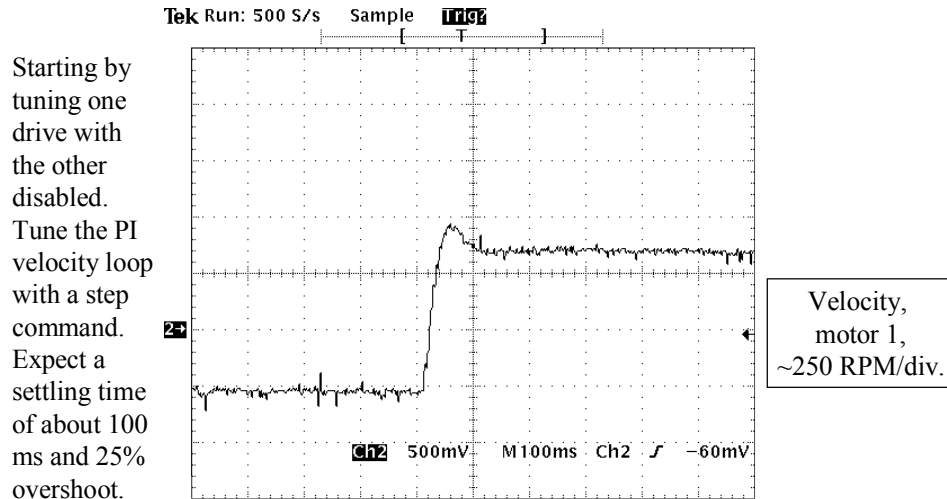

Figure 10: Tuning One Drive With The Other Disabled
- Zero the velocity loop integral gain (GVTN). Set the velocity loop proportional gain (GV) to a low initial value (~ 0.1).
- Raise the proportional gain (GV) in small steps. Keep raising the gain until the settling time in response to the step command is about 35 ms. Do not tune the system for higher gains. The fully-enabled RDP system may be difficult to stabilize. The goal of this step is to get the system operational with reasonable response. The gains can be increased after the RDP system fully enabled. (If your system does not need the velocity loop tuned this aggressively, a smaller GV would be acceptable.)
- Set the velocity loop integral gain (GVTN) to 100. Lower this gain slowly until the system overshoots by no more than 20%. You should a response similar to that shown in Figure 10. (If your system does not need the velocity loop tuned this aggressively, a larger GVTN would be acceptable.)